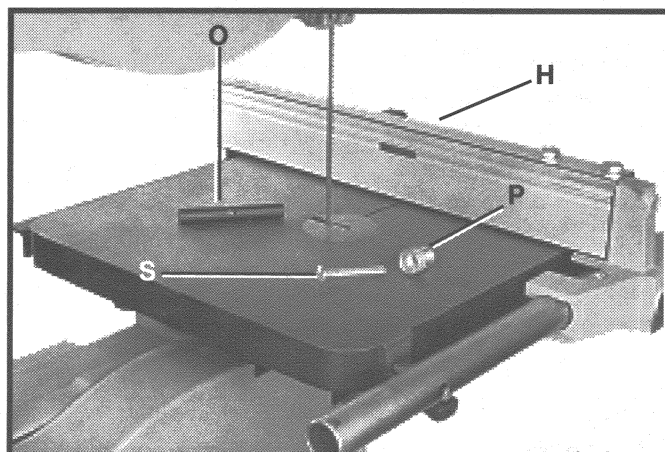

Fig. 8
1. Attach the guide post (O) Figs. 8 and 9 to the fence assembly (H) for all resawing operations.
2. Thread the hand knob (P) Fig. 8 on the 2" screw (S). Use a a flat-blade screwdriver to tighten.